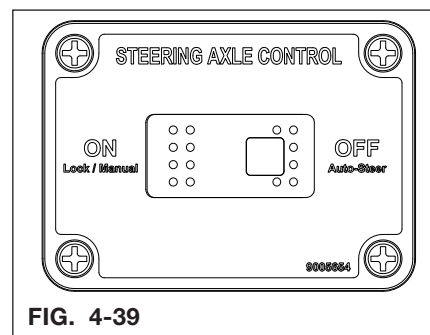

FIG. 4-39
2. Make sure the steering axle control switch is in the OFF/Auto-Steer position. (Fig. 4-39)
If a higher flow is desired and torque is not a factor, loosen the (2) flange nuts on each baffle, see figure 4-39. Use the lift handle to raise each baffle to the desired position, retighten both flange nuts, see figures 4-44 & 4-45.